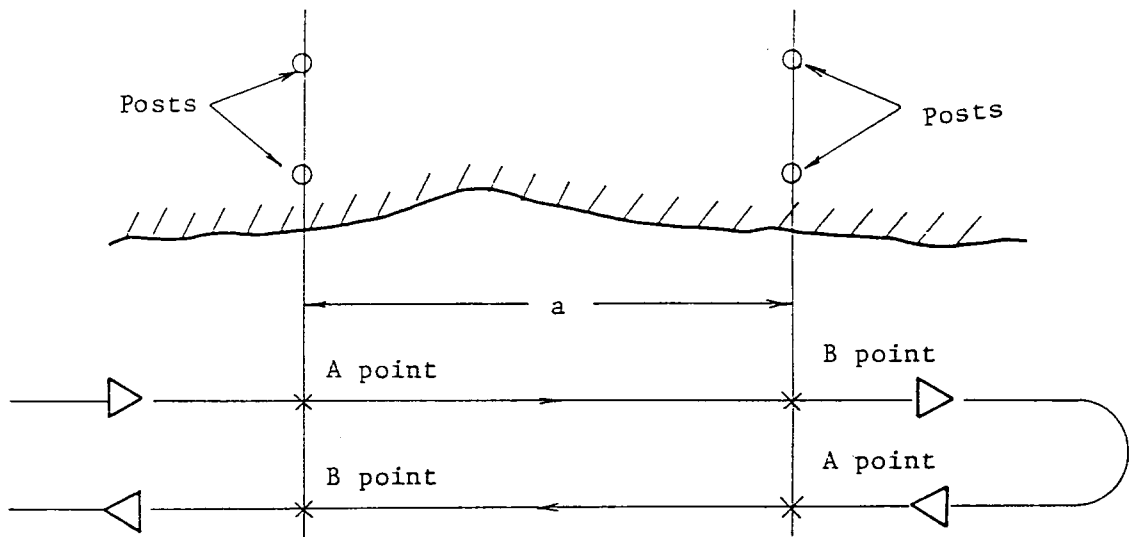

Fig. 6 Mile Post Running Test
- 3) The instant the ship passes over Point A, depress both a stopwatch 1 and the reset button of the distance counter in this equipment, as shown in Figure 6.